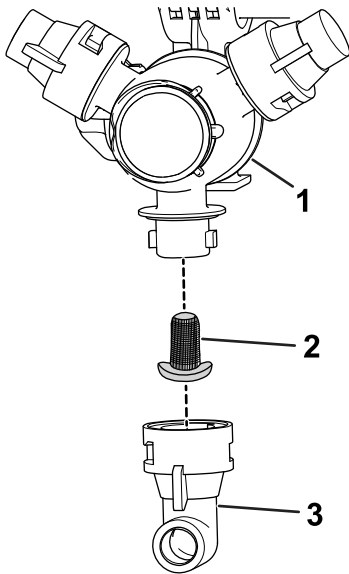

Figure 23
2. Remove the nozzle from the spray turret (Figure 23).
3. Remove the nozzle filter (Figure 23).
5. Install the nozzle filter (Figure 23).
6. Install the nozzle onto the spray turret (Figure 23).